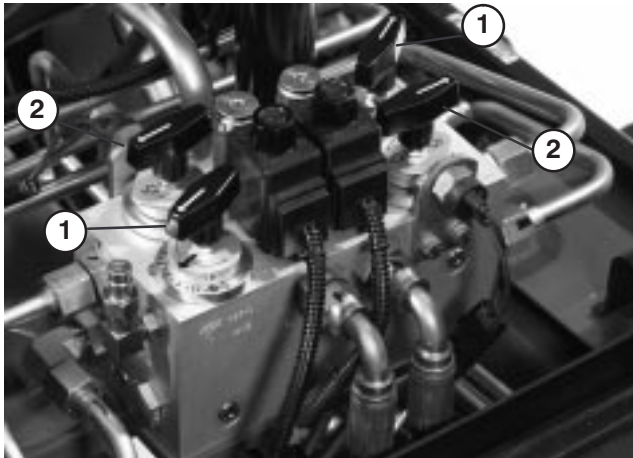

Figure 68
3. Locate the reel speed selector knobs and backlap knobs (Fig. 68). Rotate the desired backlap knob(s) to the backlap position and the desired reel speed selector knob(s) to position “1.”